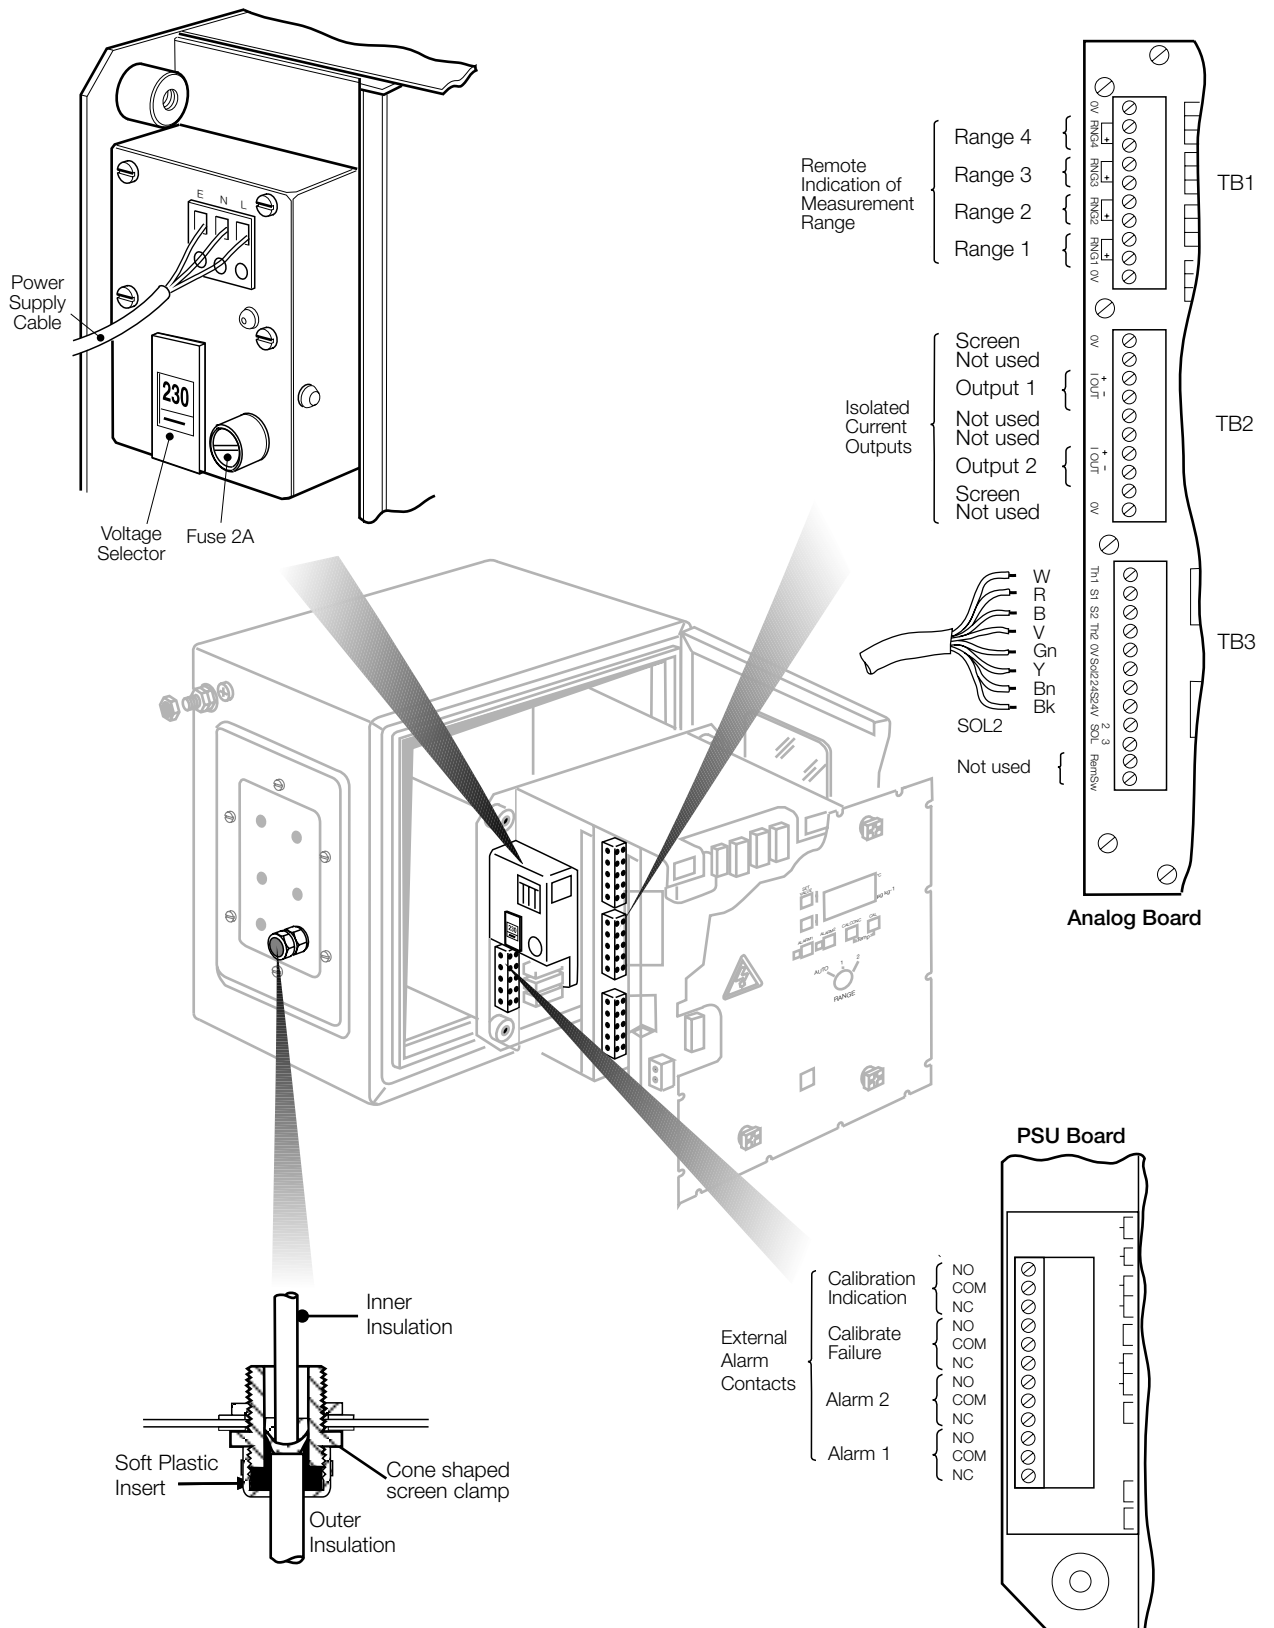

Fig. 2.8 Electrical connections at Transmitter Unit [Version without CE approval]
### 2.4.3 Transmitter Unit (Fig. 2.8)
- Noting that the screening braid terminates at the cable gland and is prepared as shown in Fig. 2.8, prepare the cable end and attach it to the terminal block TB3. The terminal block may be pulled off the pins on the board if required.
**Caution.** The terminal block for sensor unit connection has eight terminals, whereas there are 12 pins on the board. Ensure that the correct eight pins are chosen for connection; these are marked, on the PCB, with a separate 'box' – see the following text and Fig. 2.8.
Pass the remaining cables through the glands. Note that Pin 1 of each block is nearest the top of the case. Prepare the cable ends and attach them to the terminal blocks as follows – see also Fig. 2.8.